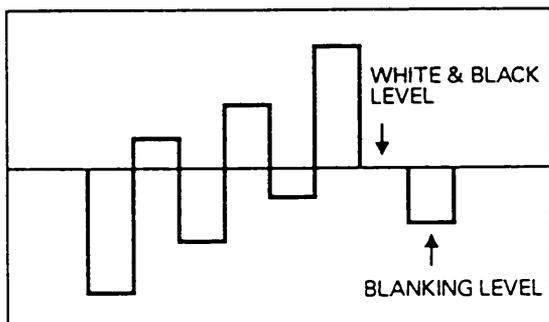

Fig 18. B-Y output Response Waveform.
- 5) Adjust L501 (B-Y REFERENCE COIL) so that the white/black level is the same as blanking level. (Fig. 18)